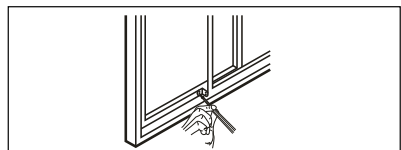

Fig. 22
- To secure the sliding sash in place, attach right angle sash lock with 1/2"(12.7mm) screw as shown.(Fig.22)